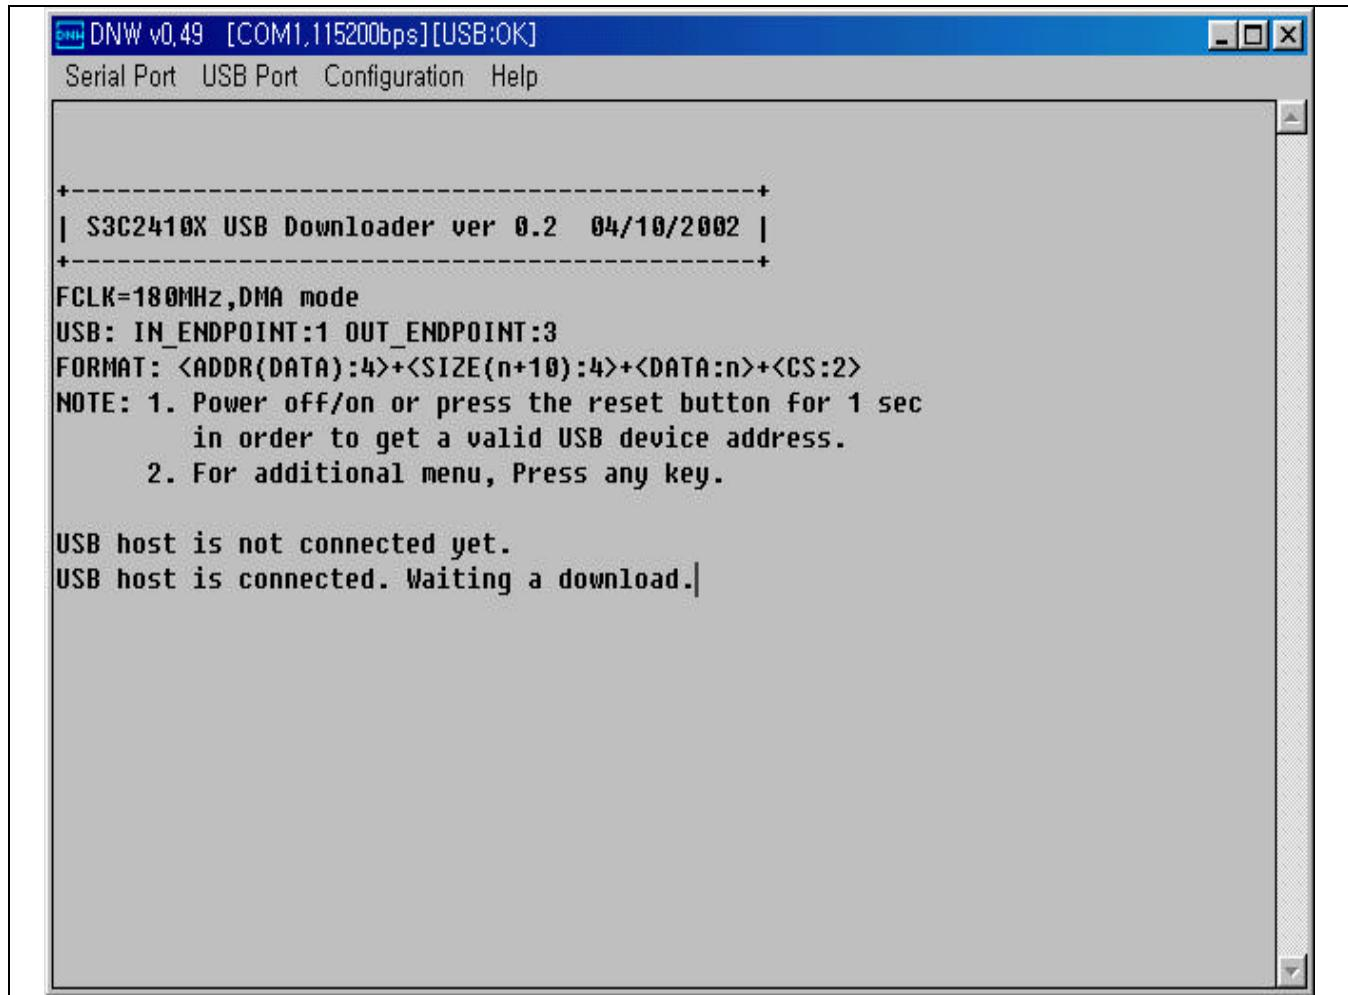

Figure 2-6. Power On Screen
2. Power on the SMDK2410 (See Figure 2-6).